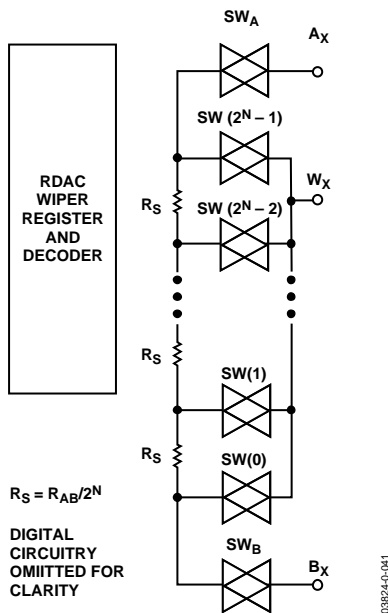

Figure 41. Equivalent RDAC Structure
The structure of the RDAC is designed to emulate the performance of a mechanical potentiometer. The RDAC contains a string of resistor segments, with an array of analog switches acting as the wiper connection to the resistor array. The number of points is the resolution of the device. For example, the AD5253/AD5254 emulates 64/256 connection points with 64/256 equal resistance, R_s , allowing it to provide better than 1.5%/0.4% settability resolution. Figure 41 provides an equivalent diagram of the connections between the three terminals that make up one channel of the RDAC. Switches SWA and SWB are always ON, while one of switches SW(0) to SW(2^N-1) is ON one at a time, depending on the setting decoded from the data bit. Since the switches are nonideal, there is a 75 Ω wiper resistance, R_w . Wiper resistance is a function of supply voltage and temperature; lower supply voltages and higher temperatures result in higher wiper resistances. Consideration of wiper resistance dynamics is important in applications where accurate prediction of output resistance is required.
The nominal resistance of the AD5253/AD5254 has 64/256 contact points accessed by the wiper terminal, plus the B terminal contact. The 6-/8-bit data-word in the RDAC register is decoded to select one of the 64/256 settings. The wiper's first connection starts at the B terminal for data 0x00. This B terminal connection has a wiper contact resistance, R_w , of 75 Ω , regardless of the nominal resistance. The second connection (AD5253 10 k Ω part) is the first tap point where $R_{WB} = 231 \Omega$ [$R_{WB} = R_{AB}/64 + R_w = 156 \Omega + 75 \Omega$] for data 0x01, and so on. Each LSB data value increase moves the wiper up the resistor ladder until the last tap point is reached at $R_{WB} = 9893 \Omega$. See Figure 41 for a simplified diagram of the equivalent RDAC circuit.
Similar to the mechanical potentiometer, the resistance of the RDAC between wiper W and terminal A also produces a digitally controlled complementary resistance, R_{WA} . When these terminals are used, the B terminal can be opened. Setting the resistance value for R_{WA} starts at a maximum value of resistance and decreases as the data loaded in the latch increases in value (see Figure 41). The general equation for this operation is